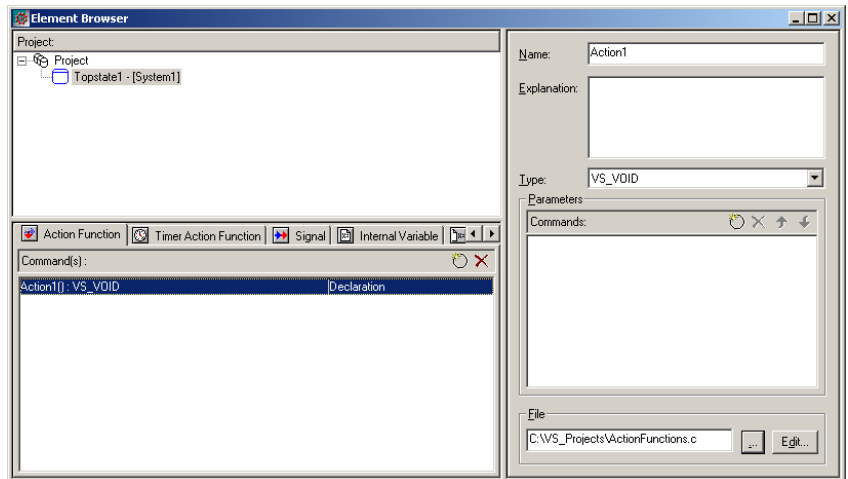

Figure 77: External C file specified for action function
- 2 Go to the bottom of the edit window and click the Browse button. An Open file dialog box is displayed. Specify the C file to use. The C file name is displayed. See *Figure 77*, page 93.